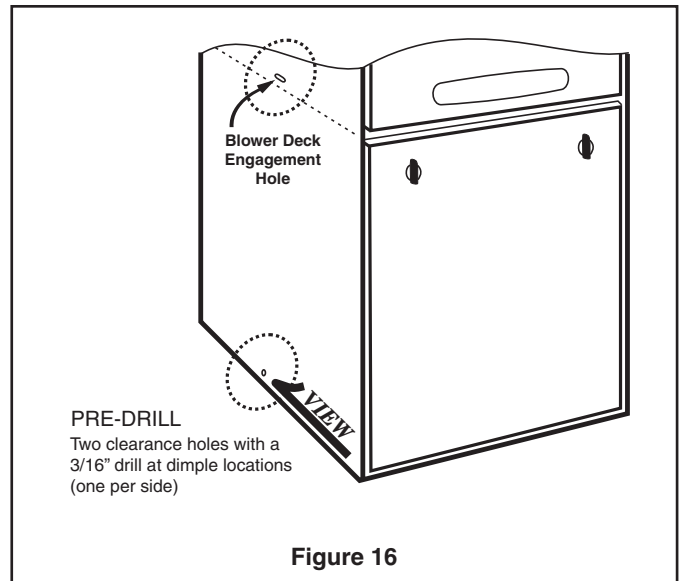

Figure 16
- Pre-drill two engagement holes with 3/16" drill at dimple locations. See Figure 16.
- Compress the filter rack and reinstall in the side position on the furnace. Confirm that the upper retaining pin/screw locks into the engagement hole in the blower deck and the lower pin/screw rests against the side of the bottom panel. See Figures 16, 18-21.